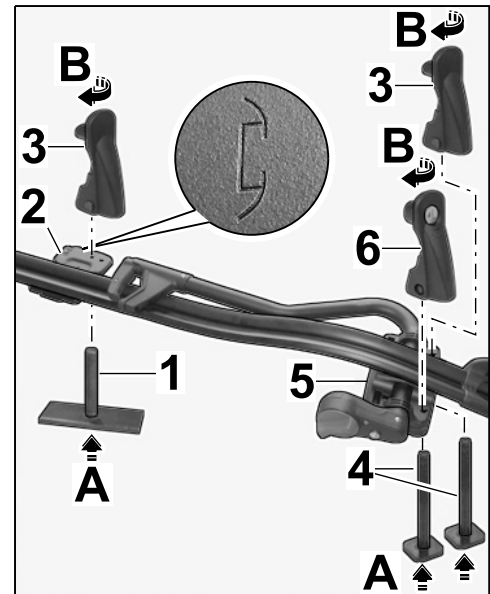

Figure 5
- 1.2.3 Guide T-bolt (M6 x 35) from below through the bore with the marking (⇒ *Figure 5 -inset-*) on the retainer plate (rear) (⇒ *Figure 5-A-*).
Screw tensioning lever approx. 3 turns onto the T-bolt (M6 x 35) (⇒ *Figure 5-B-*).
- 1.2.4 Guide T-bolt (M6 x 61) through the bore on the retainer plate (front ⇒ *Figure 5-5-*) (⇒ *Figure 5-A-*).
Screw tensioning lever with lock (⇒ *Figure 5-6-*) approx. 3 turns onto the T-bolt (M6 x 61) (close to quick-release clamp) (⇒ *Figure 5-B-*).
Screw the second tensioning lever approx. 3 turns onto the T-bolt (M6 x 61) (⇒ *Figure 5*).